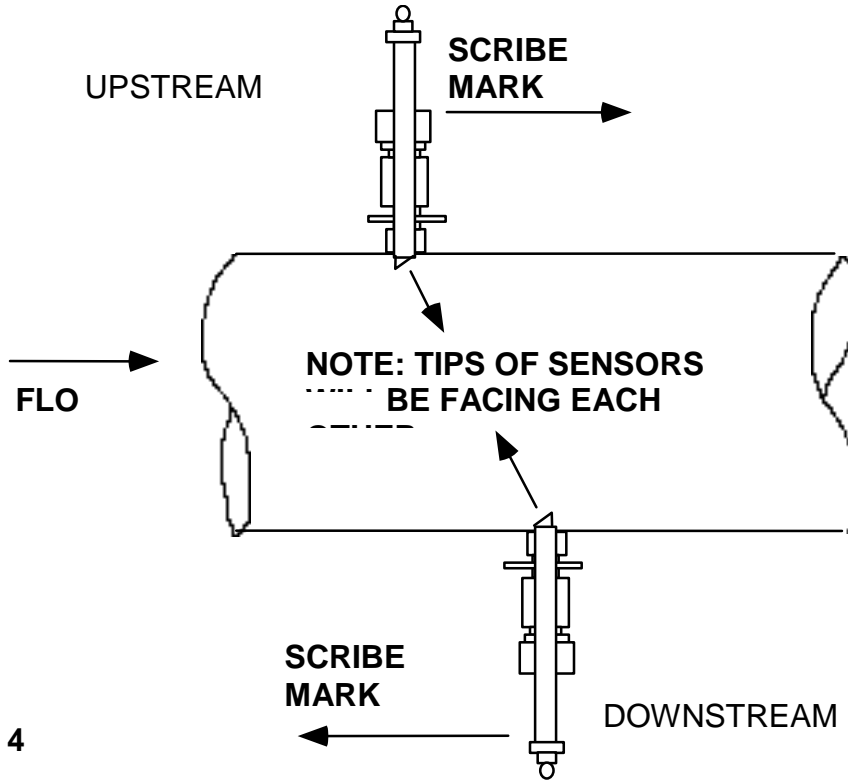

FIG. 4
3. Position collar (2) onto sensor and use above formula to calculate correct dimension. Please note that the collar should already be installed by the factory on new orders, the collar dimension will have to be changed only if pipe dimensions are other than given.
4. Slide brass collar and O-ring assembly (3 & 4) onto end of sensor and butt up against the split collar (2).
5. Note scribe mark running near the end of the sensor. This scribe mark, when the sensor is installed, should be facing toward the opposite sensor (Fig. 4).
6. Place tip of sensor through bearing seal (7) and carefully push until the sensor stops at the ball valve. Fasten safety cable clip (long length) to opposite safety plate.
7. Turn valve handle to the "on" position and insert the sensor until the brass collar (3) seats on the O-ring on the tail piece (5 & 8).
8. Tighten retainer (1) onto the tail piece (8) using a 1/16" square screw driver shaft in the notch on the end of the retainer.